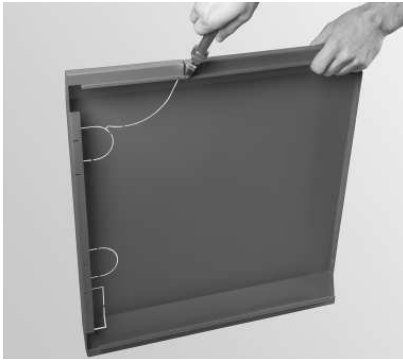

Fig. 96 Punch out the cut-out only if the flue connection is at the top
- ▶ If the **flue connection is at the top**, punch out the cut-out on the cladding cover – Fig. 96. If the flue connection is at the rear, do not punch out.